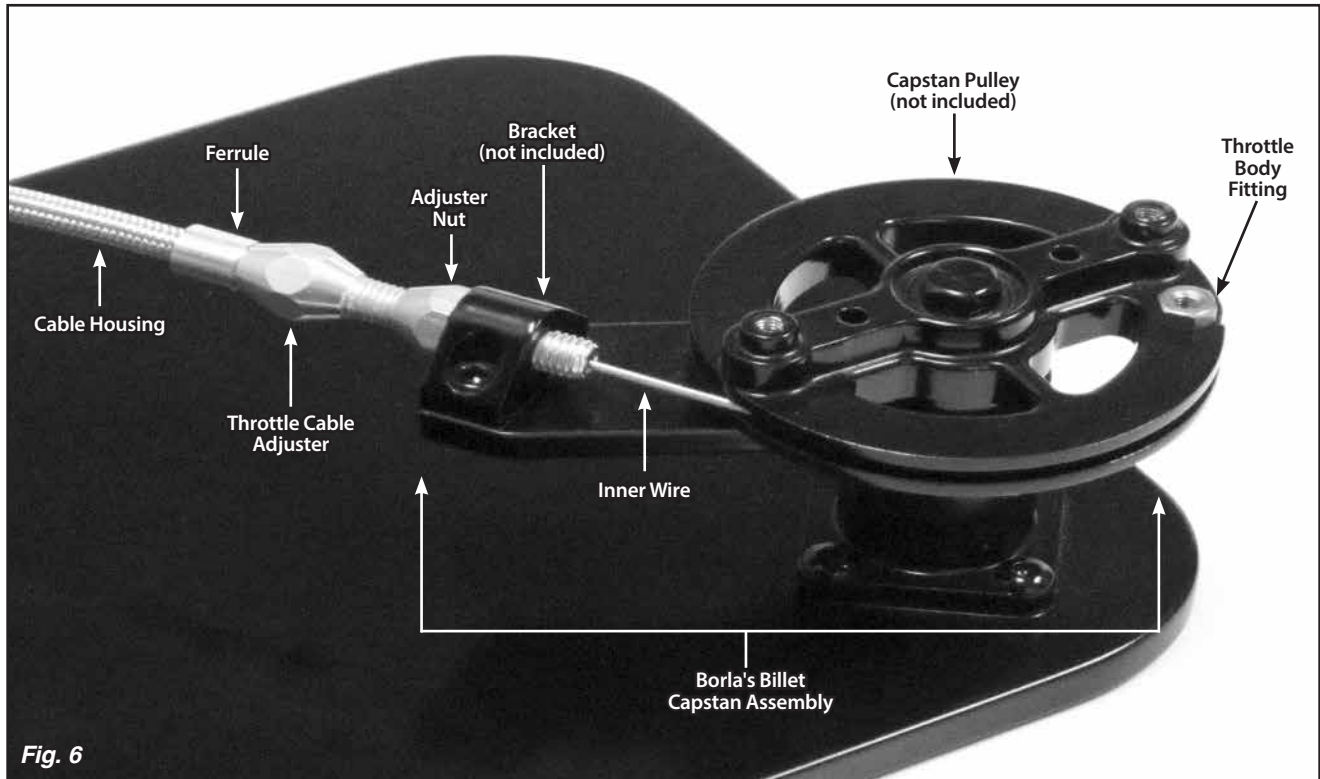

Fig. 6
Step 11: With the Throttle Pedal released, rotate the capstan pulley to the wide open throttle position. Insert the throttle body fitting into the hole in the capstan pulley. **Fig. 6**